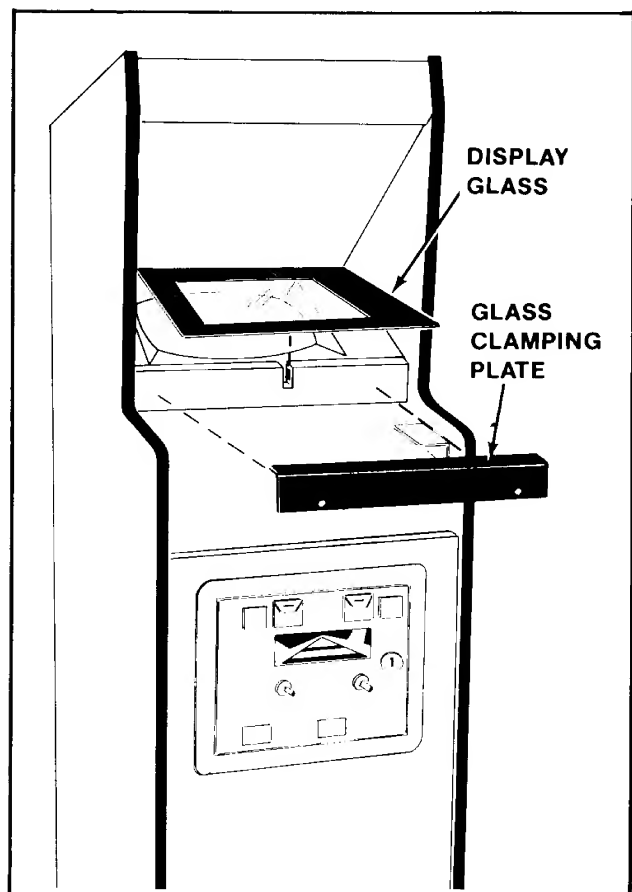

Figure 4-6 Removal of Main Display Glass & T.V. Bezel — Mini
2. MINI MODEL: See Figure 4-6.